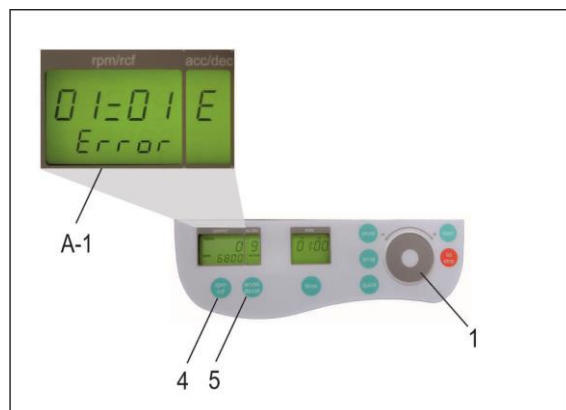

Figure 10
The list of the last 99 error messages can be looked over by pressing the key "rpm/rcf" (4) and leaf through it with the control field (1). The respective error codes appear in the display "rpm/rc" (A-1) (see Figure 10). The first two numbers indicate the appeared errors ongoing from 00 to 99, the last two numbers indicate the error code. Please refer to, "Table 4: " (see APPENDIX p. 5)